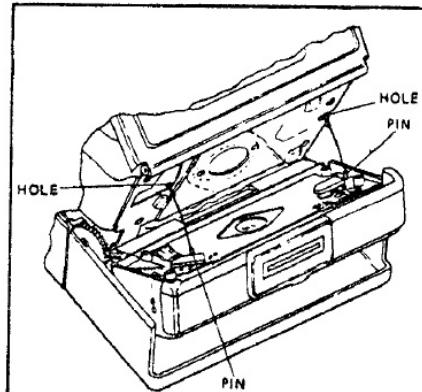

FIGURE 4-40 SHUTTER ASSEMBLY LOCATING PINS
- e. Position the shutter on the hinge bracket by aligning the locating pins (see Figure 4-40).